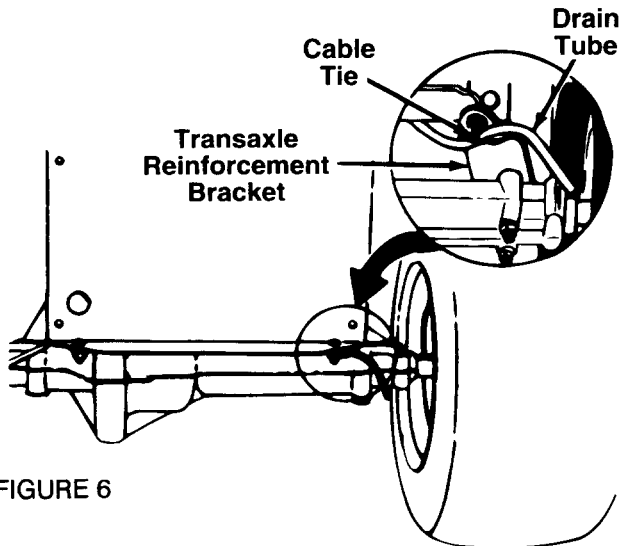

FIGURE 6
6. Secure battery by hooking battery strap into slot in rear frame, under the fender. See figure 6.
7. Insert the drain tube through the hole in the transaxle bracket or through the cable tie (if so equipped) which is attached to the transaxle reinforcement bracket on the right side of the unit. See figure 6. Be certain drain tube is routed away from the wheel rim.